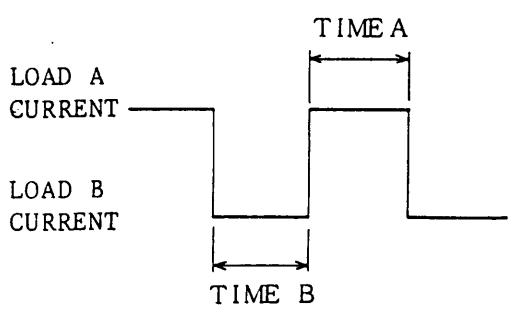

Figure 2-6-1
- (1) Set the Electronic Load to the constant current or resistance mode as described previously.
- (2) Set the DC  SW switch to the SW () state. The loading current will be switched between the levels set by the LOAD A and LOAD B knobs.
- (3) The switching periods are adjustable with the TIME A knob for the LOAD A current and with the TIME B knob for the LOAD B current.
- (4) Switching period range selector
- (5) Loading current monitor terminal (See Figure 2-6-1 for an example of switched loading current.)